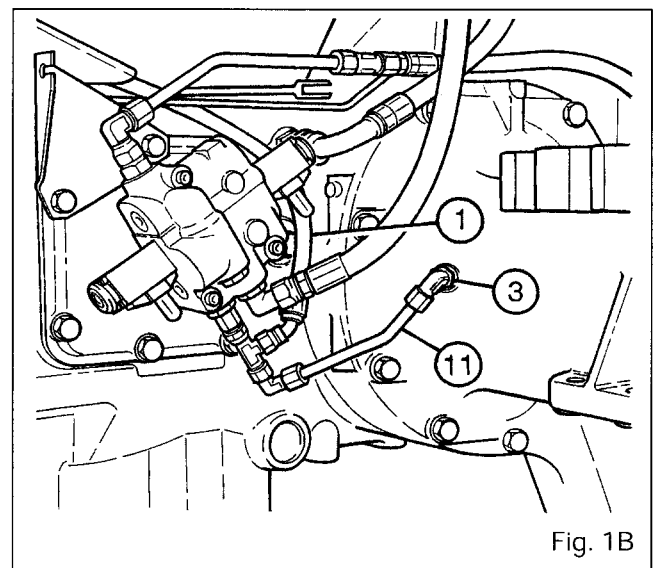

Fig. 1B
As from serial number E240024 (open centre), disconnect the brake lubricating hose (1) or pipe (11) (depending on the side concerned). (Fig. 1B).
27. Reinstall the draught control sensor after lightly smearing it with Loctite Anti-seize or equivalent. Reconnect the hose (1) or pipe (11) on the restrictor union (3) (Fig. 1B).